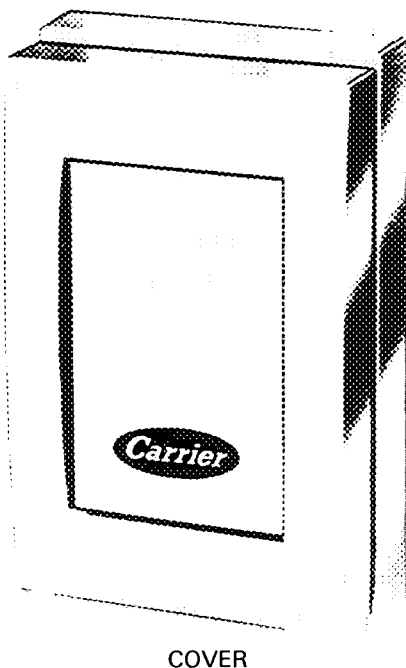

Fig. 16 — Electronic Thermostat/Transmitter (Without Subbase)
5. Remove cover from thermostat (or from transmitter if a remote sensor is used); note the red diagnostic light-emitting diodes (LED's). See Fig. 16.